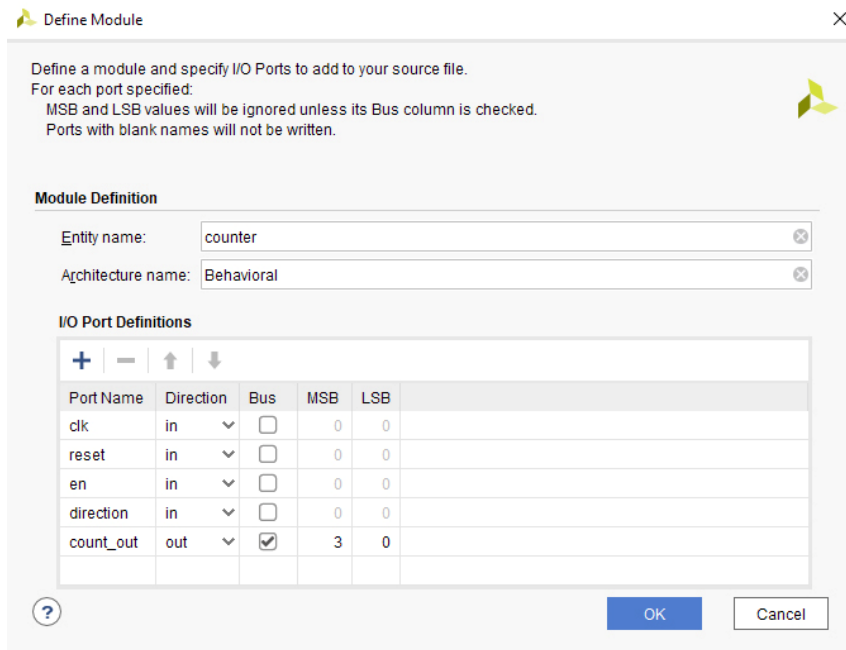

Figure 5
12. Declare the **counter** design ports by filling in the port information as shown in Figure 5